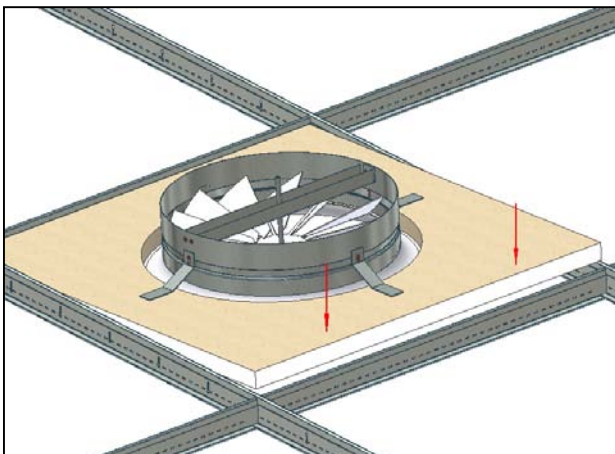

Figure 13a: Lower Diffuser into place
- Once the Diffuser is positioned, lower it into the opening, ensuring that it is firmly seated against the tee bars of the ceiling grid. (See figure 13a below).